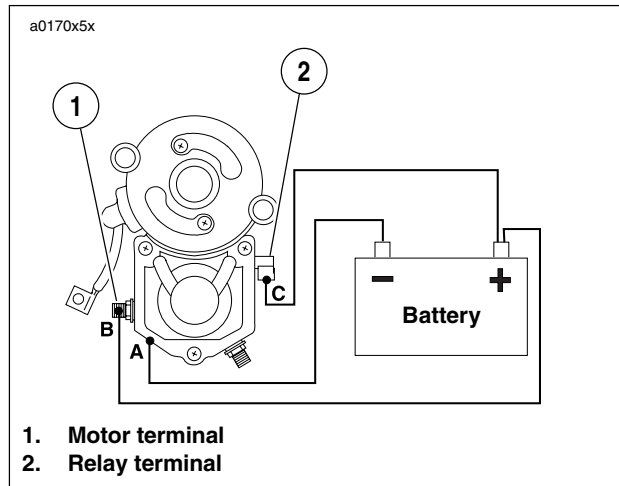

Figure 5-14. Hold-In Test
1. See Figure 5-14. With test leads still connected in the manner specified in the previous SOLENOID PULL-IN TEST, **disconnect solenoid motor terminal/battery negative test lead (B) at negative battery post only; reconnect loose end of this test lead to positive battery post instead.**